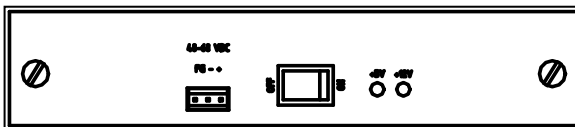

Figure 9 Panel of rack/DC DC redundant power supply
- The panel of RACK/DC DC redundant power supply is shown in figure 9.